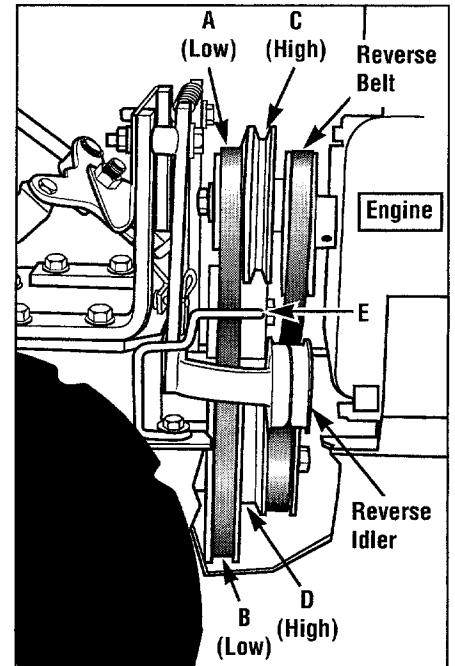

Figure 4-11: Right-side view of engine and transmission pulleys (engine is at right-side of view).
4. From beneath the tiller, move the forward drive belt out of the transmission low speed groove (B, Figure 4-11) and into the high speed groove (D).
5. Pull upward on the belt to remove any slack and slip the belt out of the engine drive pulley low speed groove (A, Figure 4-11) and into the high speed groove (C).
6. Check that the belt is within the forward belt guide (E, Figures 4-11 and 4-12) on the right-side of the unit and is within the forward idler (F, Figure 4-12) on the left-side. Be sure that the belt is situated in the center grooves (C and D, Figure 4-11) of the engine (upper) and transmission (lower) pulleys.
4. From beneath the tiller, move the forward drive belt out of the transmission pulley high speed groove (D, Figure 4-11) and into the low speed groove (B).
5. Pull upward on the belt to remove any slack and slip the belt out of the engine drive pulley high speed groove (C, Figure 4-11) and into the low speed groove (A).
6. Check that the belt is within the forward belt guide (E, Figures 4-11 and 4-12) on the right-side of the unit and is within the forward idler (F, Figure 4-12) on the left-side. Be sure that the belt is situated in the rear grooves (A and B, Figure 4-11) of the engine (upper) and transmission (lower) pulleys.